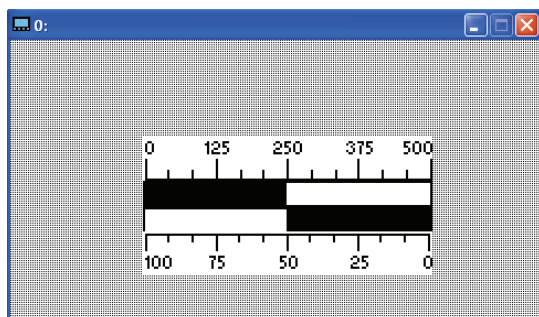

Figure 1-80
Step 5. Usually, the Scale object will display with the bar graph to let the users see the present value more clearly (Figure 1-80, Figure 1-81).